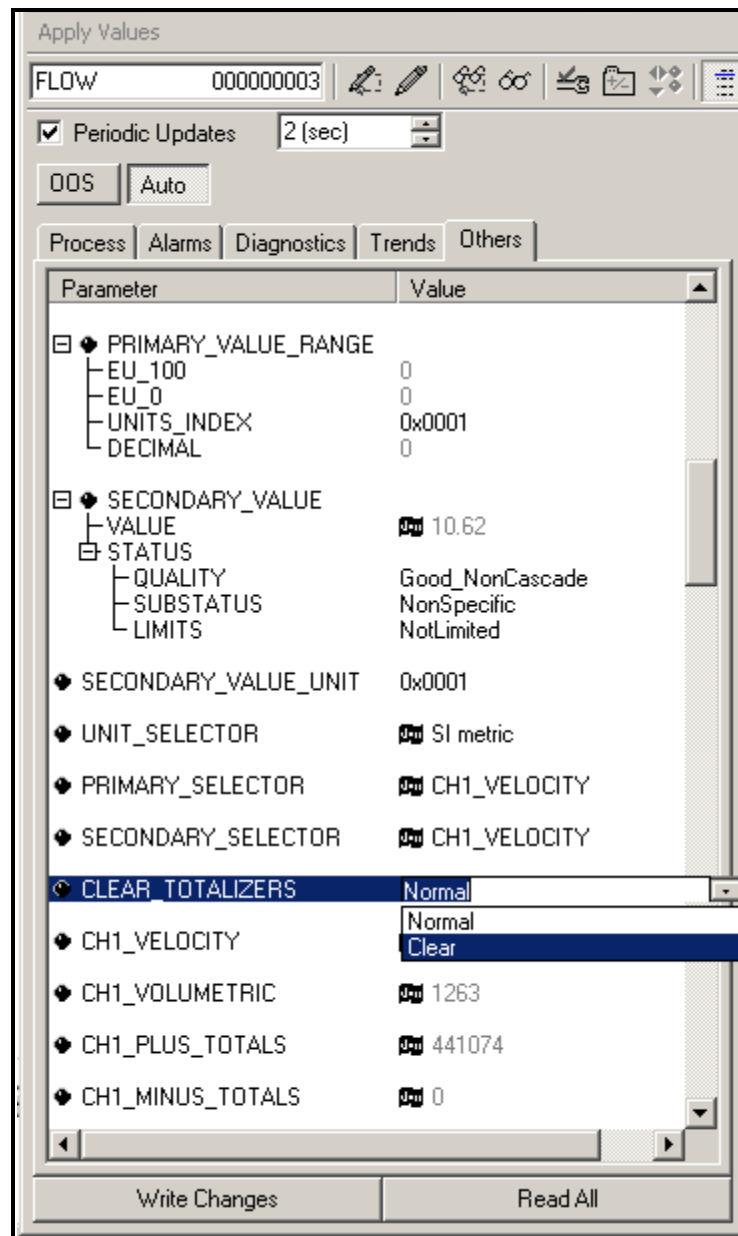

Figure E-4: Clear Totalizers Drop Down List
3. Select **Clear** from the drop down list box (see Figure E-4 below).